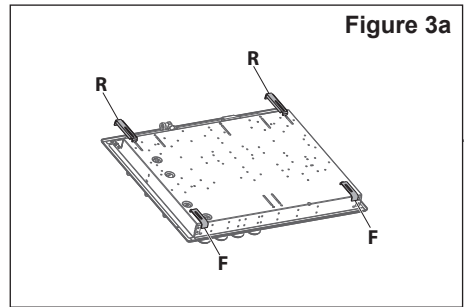

Figure 3a
**Models DEGHSL60, DEGHSL75 (fig. 3a):** The kit includes two “F” type brackets (for the front of the cooktop), two “R” type brackets (for the rear of the cooktop) and four self-threading screws “S”.
- Fasten the brackets “F” and “R” to the appropriate socket holes, without tightening the screws “S” for the moment. Make sure that the tabs are mounted correctly, as shown (figs. 3a, 3b, 3c, 3d). Rotate the tabs so that the cooktop can be put into the cutout.